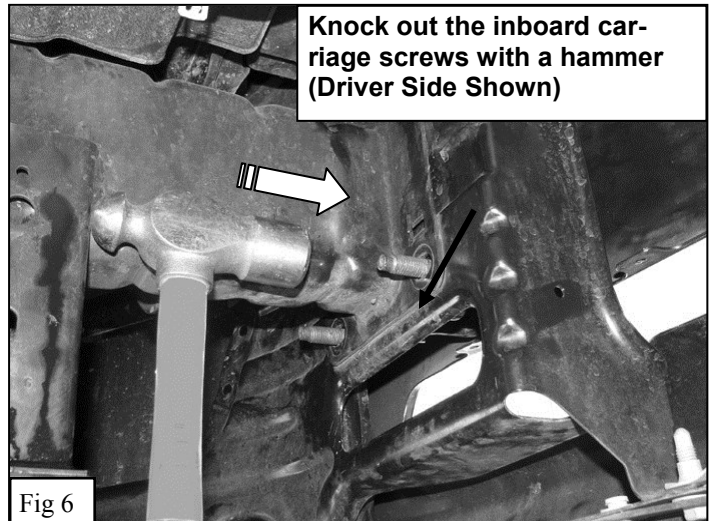

Fig 6
5. Drive the inboard carriage bolts in the bumper bracket out of the bracket by striking the end of the bolts with a hammer (Figure 6). Discard the tin retaining washers.